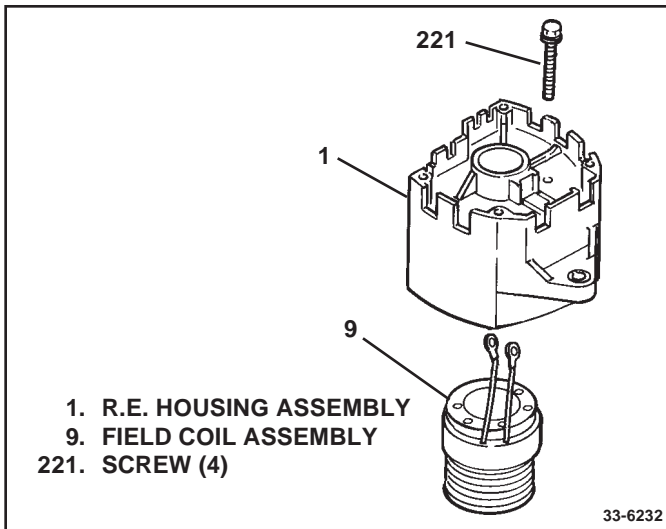

Figure 22. Removing Field Coil
11. To remove field coil and support (9) from rectifier end housing, (See Fig. 22) remove 4 field coil and support attaching screws (221). Lift coil and support from housing, while guiding field leads through hole.